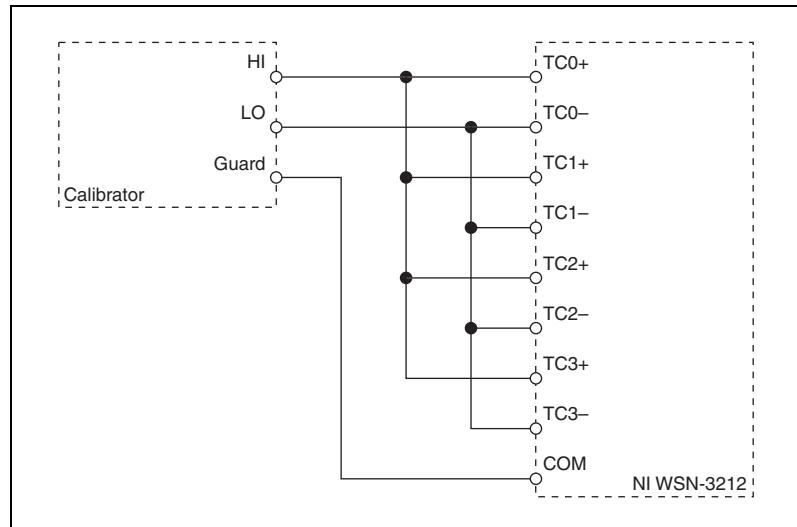

Figure 1. NI WSN-3212 Analog Input Gain Connections
1. Connect the calibrator to the NI WSN-3212 as shown in Figure 1.